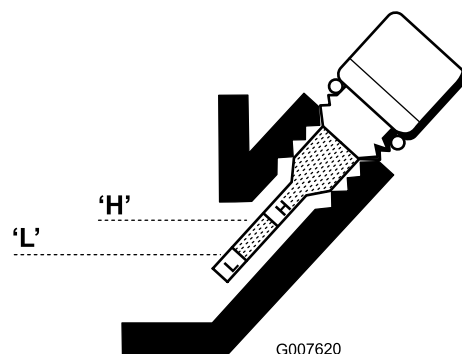

Figure 17
5. If the level is low, add only enough oil to raise the level until it is between the H and L marks on the gauge (Figure 17). **Do not overfill.**